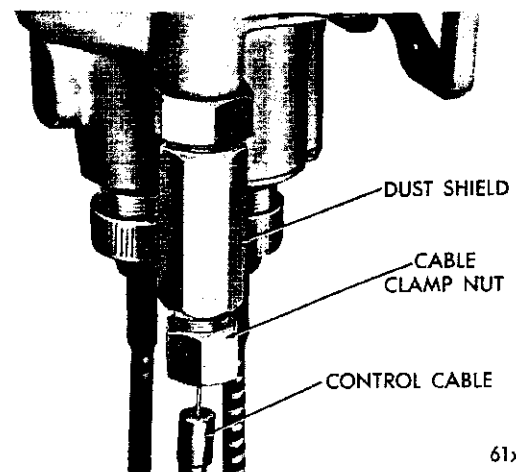

Fig. 35—Control Cable Adjustment
- (1) Rotate the selector knob counterclockwise as far as it will go without forcing.
- (2) Hold the dust shield so that it will not rotate while unscrewing the clamp nut. Let the nut slide down the control cable. (This nut retains the control cable in the bottom of the dust shield.) (Fig. 35.)
- (3) Remove the clamp nut, and pull the control cable out of the dust shield until the ferrule on the end of the cable is free from the bottom of the dust shield (Fig. 35.)